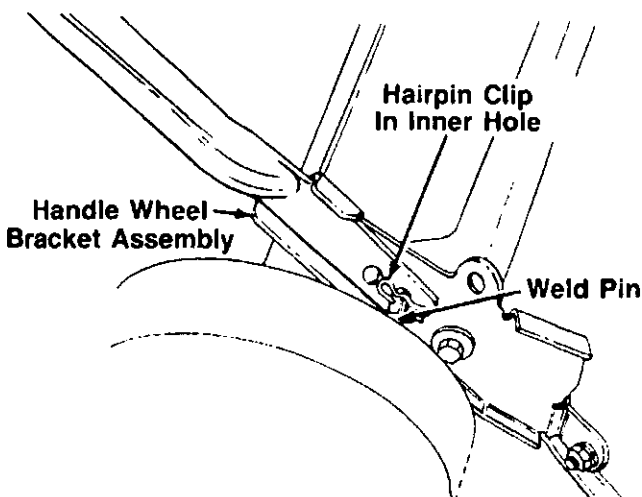

FIGURE 1.
3. Using a pair of pliers, squeeze one leg of the lower handle against the handle wheel bracket assembly. Insert the hairpin clip into the **inner** hole on the weld pin. See figure 1. Repeat on other side.